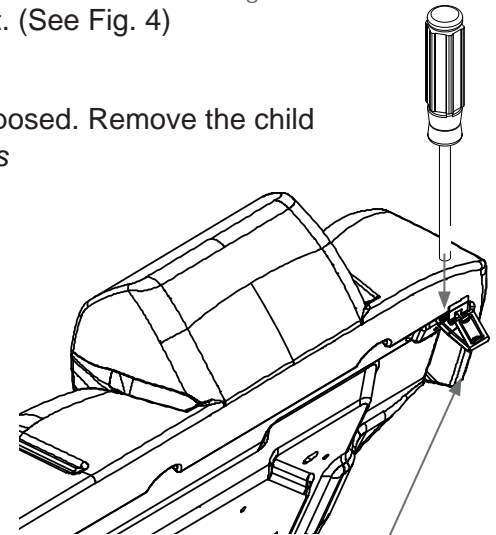

Fig. 4
- C. Remove the OEM seat back cushion by removing two 18 mm nuts from the lower mounting brackets near the seat mounting studs. Use a screw driver and press from above to release the OEM spring locking tabs located on the top outer corner of the seat. (See Fig. 4)